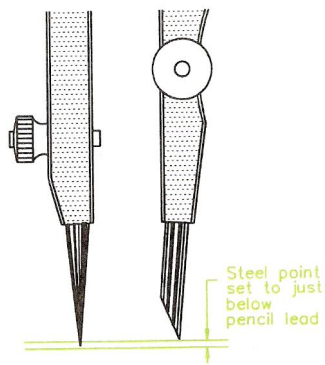

Figure 7 - Positioning the Lead of a Pencil Compass
- **Compasses and dividers** - a good quality pair of compasses, which can draw circles up to 150 mm radius is an essential item of equipment. A pair of smaller 'spring bow' compasses is a valuable asset when drawing circles of 25 mm and less radius. Although not absolutely essential a pair of dividers can prove to be of use at times, e.g. when measuring from another drawing to determine an unknown dimension. See Figure 6. Set the steel point of the compass just a little lower than the tip of the compass pencil. See Figure 7.